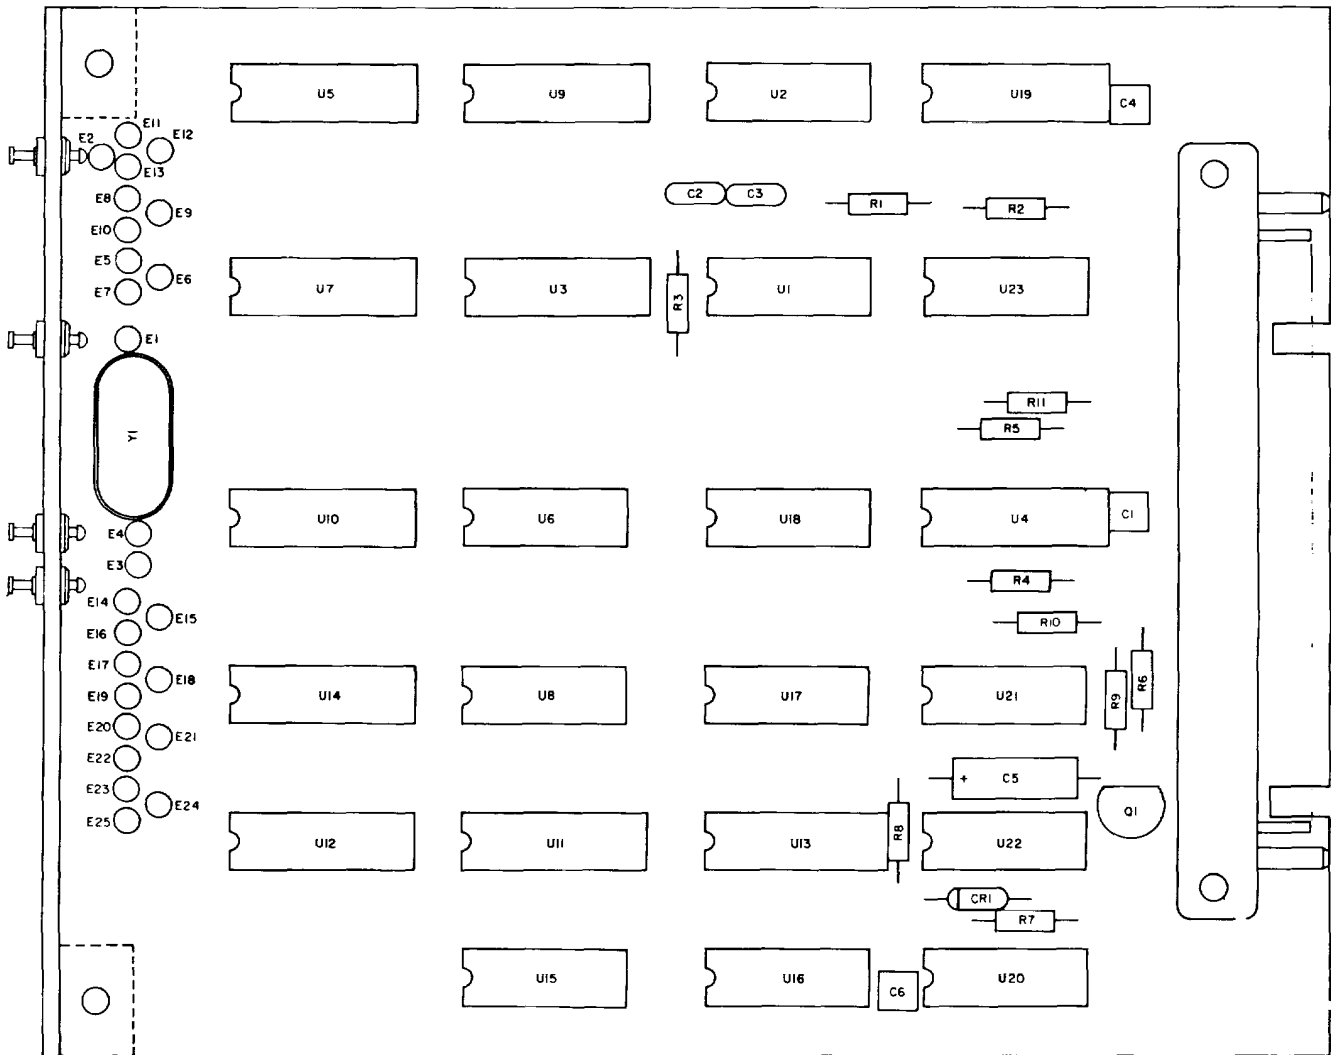

Figure 5-3. PhaseComparator Circuit Card Assembly, 1A3A2 Parts Location Diagram
c. Phase Comparator Circuit Card Assembly. (1A3A2) Disassembly. This circuit card assembly should be removed only when servicing or component replacement is required. To remove this circuit card assembly, grasp both edges of the card and pull up. Further disassembly should be limited to removal of parts for repair or replacement. Refer to figure 5-3 for location of components to be replaced.